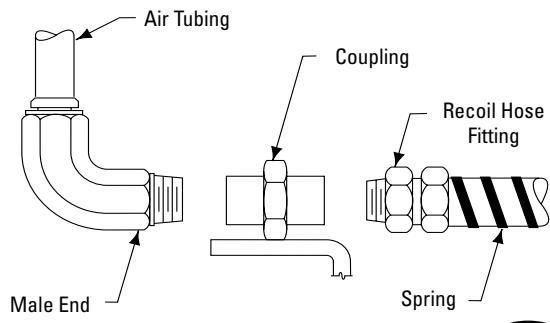

**Fig. 35**
- Connect one end of provided rear recoil hose to bulkhead T-fitting at midpoint of runway. Connect other end of recoil hose to coupling welded on rolling jack, Fig. 35 and 37.
- Connect elbow end of rolling jack tubing assembly to air pump and male end to the coupling, Fig. 35 and 37.